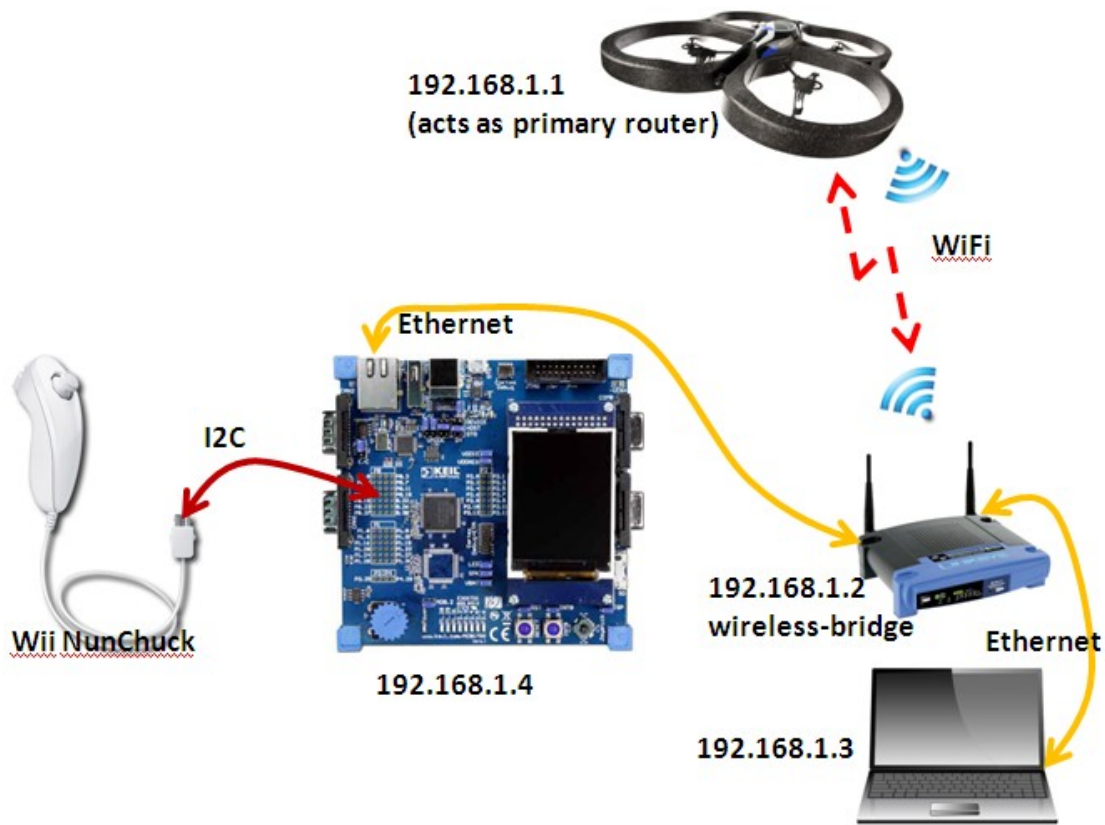

Figure 1 Overview of the project developed in this lab.
A closer look at the motherboard is shown in Fig.1, which points out some of the main elements:
- AR.Drone mainboard overview (Fig.1 right taken from here); <http://awesome-drone.blogspot.com/>